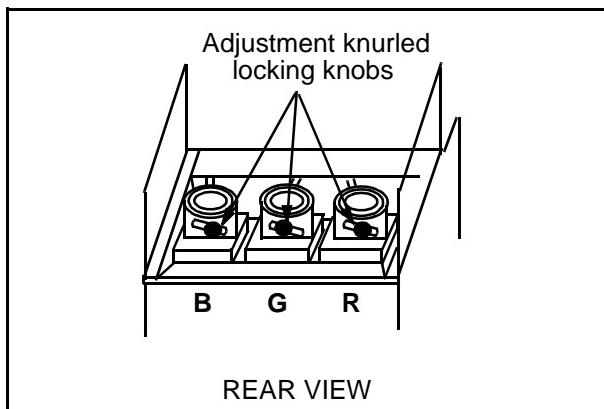

Figure 31. Optical Lens focus Adjustment
- Optical focus adjustment is located on the top of each CRT lens system. Loosen the adjustment knurled locking knob. (Figure 31)